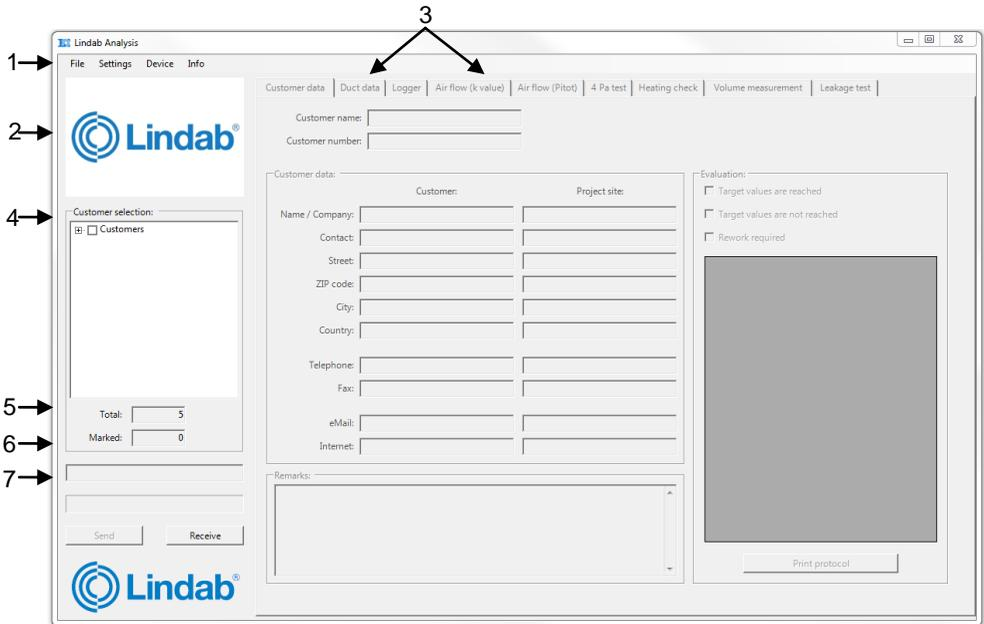

Fig. 3: Main screen
- In the main view, click on "customers" with the right mouse button to create a new customer file (see fig. 3, part 4).